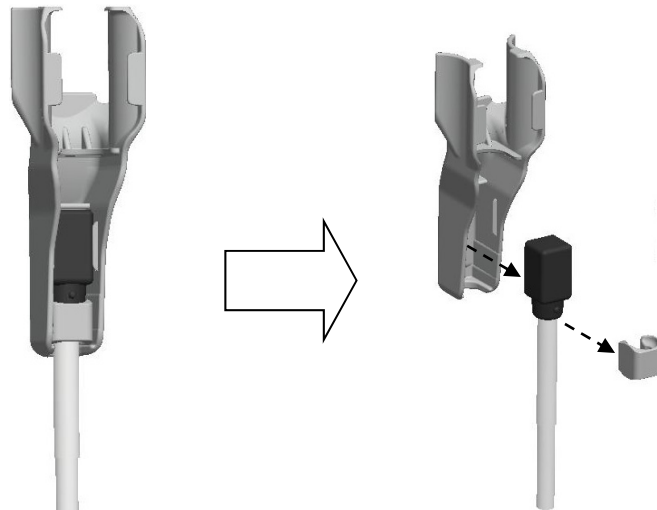

Fig.7 How to release magnetic sensor from the Magnetic sensor attachment
- 2) Detach the magnetic sensor and the Spacer for EZU-RV2S from the Magnetic sensor attachment as shown Fig.7 in the out of operative field.